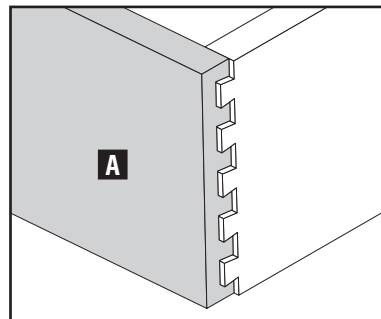
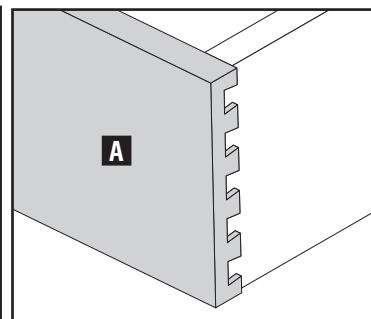

Fig. F17
Fig. F18
If the end grain of the pinboard (A) is **recessed** (too low, as shown in Fig. F17) or if it is too **proud** (too high, as shown in Fig. F18), the template can be adjusted to fix this.